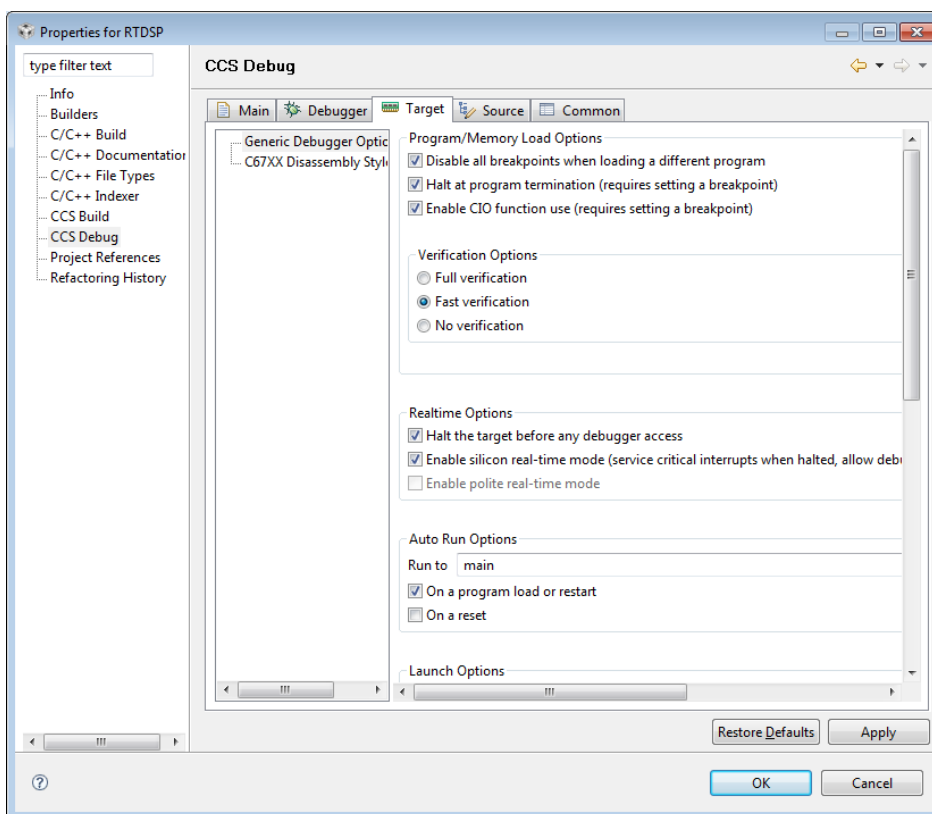

Figure 10: Enabling modification of variables
- For the real- time options, ensure the two boxes shown in figure 10 are checked.